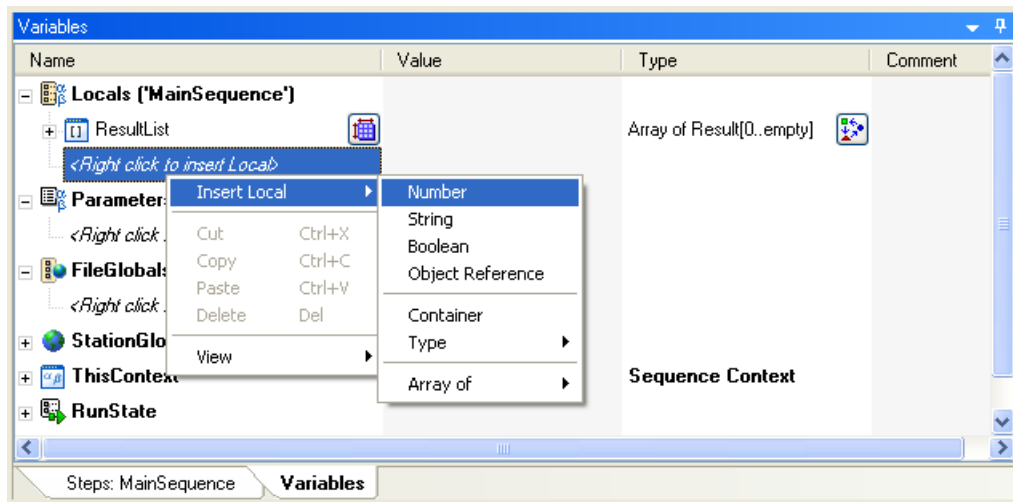

Figure 7 Add new local variable
- a. Ensuring that the LED Test step still selected, Right-click in the variables side window, and select **Insert Local » Number**, as shown in Figure 7